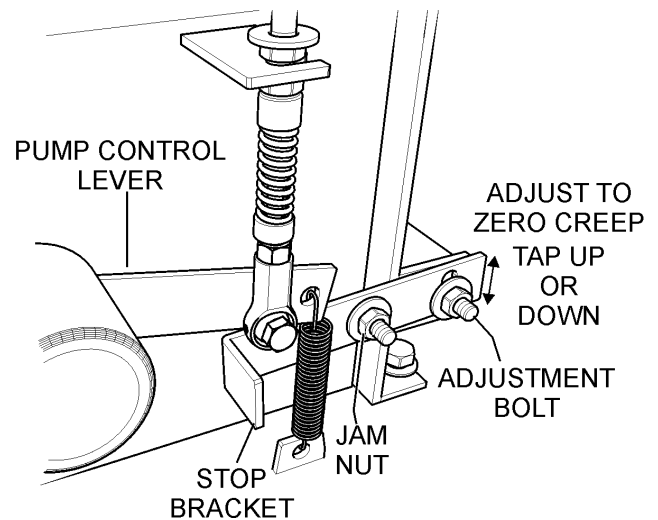

Figure 44. Pump Control Lever Adjustment
2. Locate the **pump control lever** adjustment bolt (Figure 44).